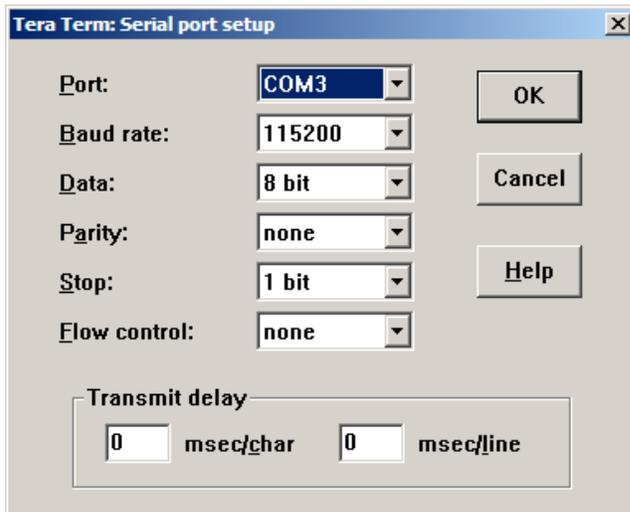

Figure B-14.
- a. If using the datalogger's USB COM port, configure the parameters as in **Figure B-14**. **Note that the Port number selected must match the datalogger's USB Virtual Serial port number as found in Appendix A, Step 3.*